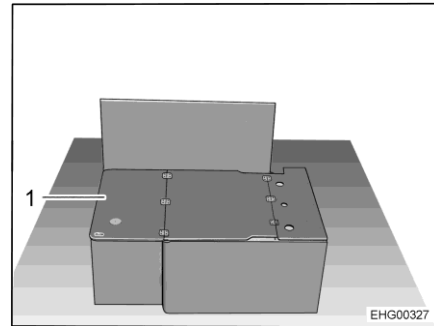

Fig. 33 Divan without cushions
- Fold the support board (Fig. 33,1) by 180° and set it down on the bench seat cover.